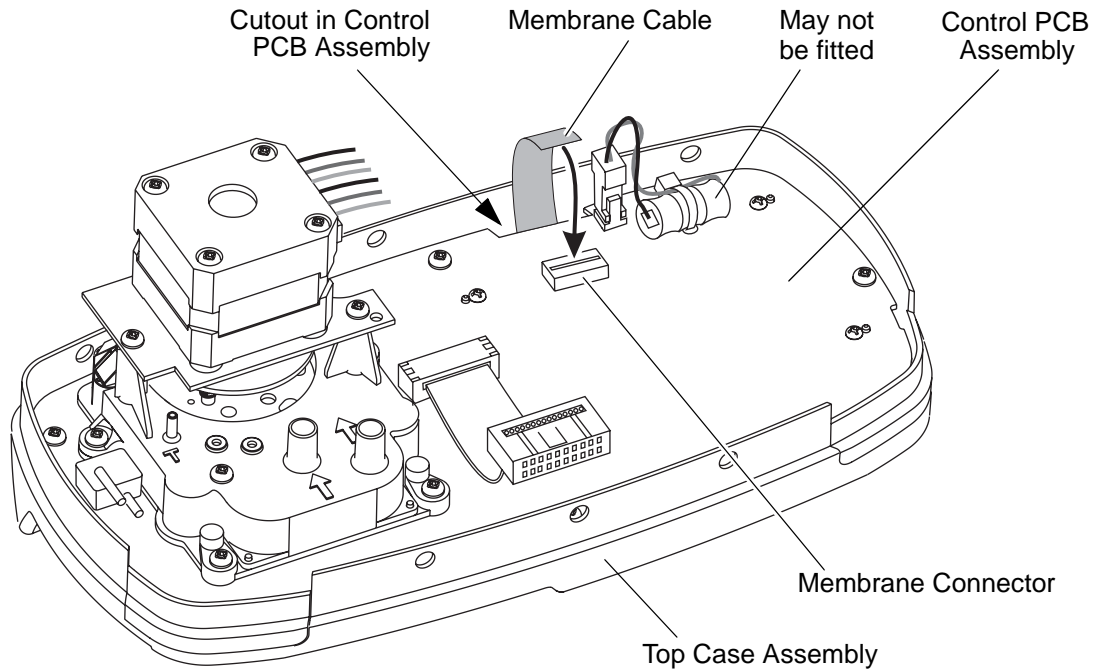

Figure 55 - Connecting the Membrane Cable to the Membrane Connector on the Control PCB Assembly
Note: Remove the membrane cable from the membrane connector on the control PCB assembly (refer to Figure 55).
31.4.2 Carefully guide the end of the membrane cable so that it passes through the cutout in the control PCB assembly (refer to Figure 55).